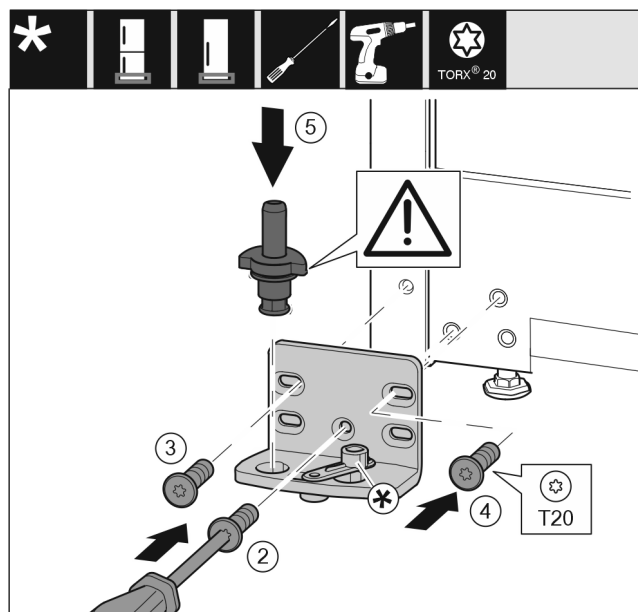

Fig. 21
- Place the swap bearing block on the other side and use a screwdriver to screw it on. Start with the screw Fig. 21 (2) at the bottom in the middle.
- Tighten screw Fig. 21 (3) and screw Fig. 21 (4).
- Insert the bearing bolt Fig. 21 (5) completely. Ensure that the latching cam is pointing towards the rear.